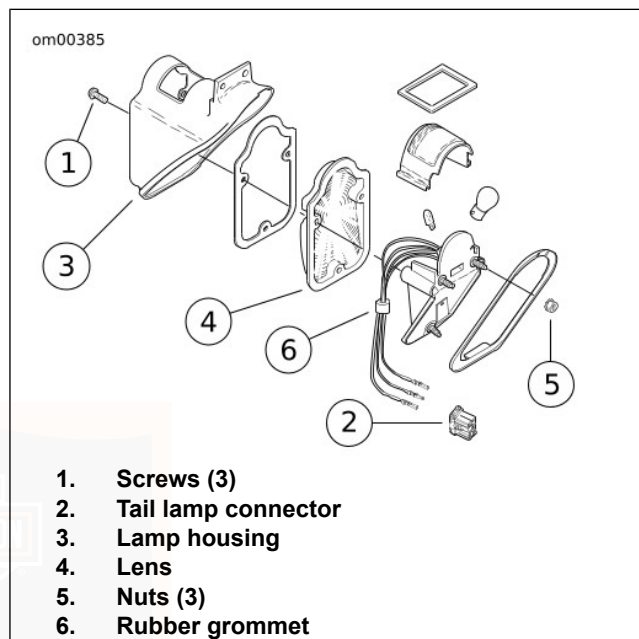

Figure 71. Tail Lamp Assembly: FLSTSC/FLSTN
1. See Figure 71. Remove the lens.